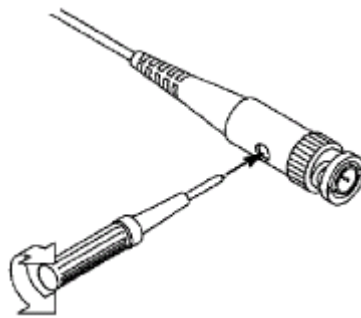

Figure 3-7 Adjust Probe
2. Check the displayed waveforms and regulate the probe till a correct compensation is achieved (see *Figure 3-6* and *Figure 3-7*).